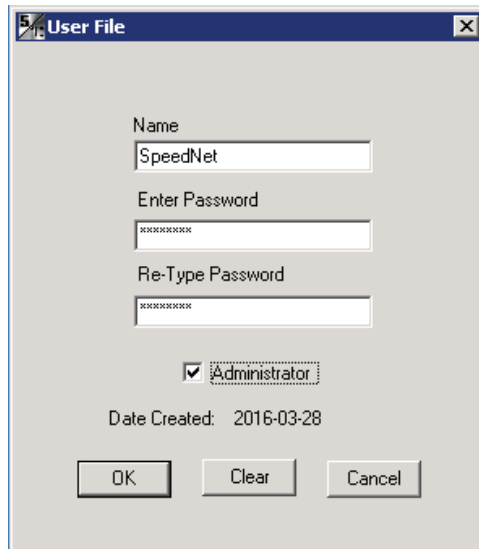

Figure 7. The KeyGen User File dialog box.
- STEP 8.** Click the **Add** button on the **User Management** window. The User File dialog box will open. See Figure 7.
- STEP 11.** Retype the password to confirm the previously entered password. Click to check the **Administrator** checkbox if the user will be an administrator. Click the **OK** button. See Figure 7.